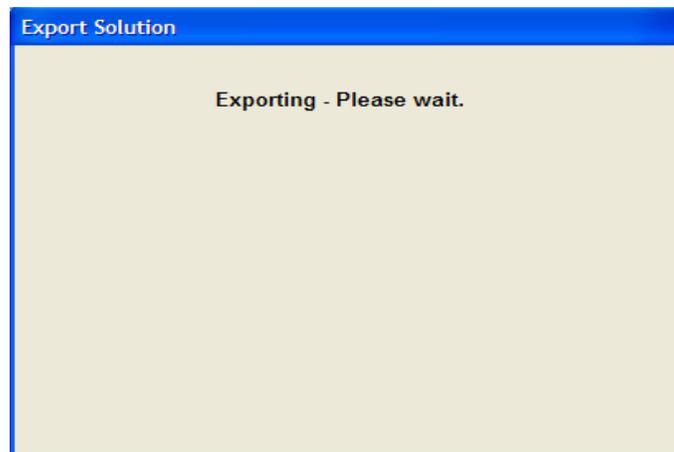

Figure 3-15. Please Wait – Exporting Project Window
2. Click on the OK button to start the export process. While BeeKit executes this, it displays the window shown in Figure 3-15, and the steps it takes scroll by in the Messages window pane.